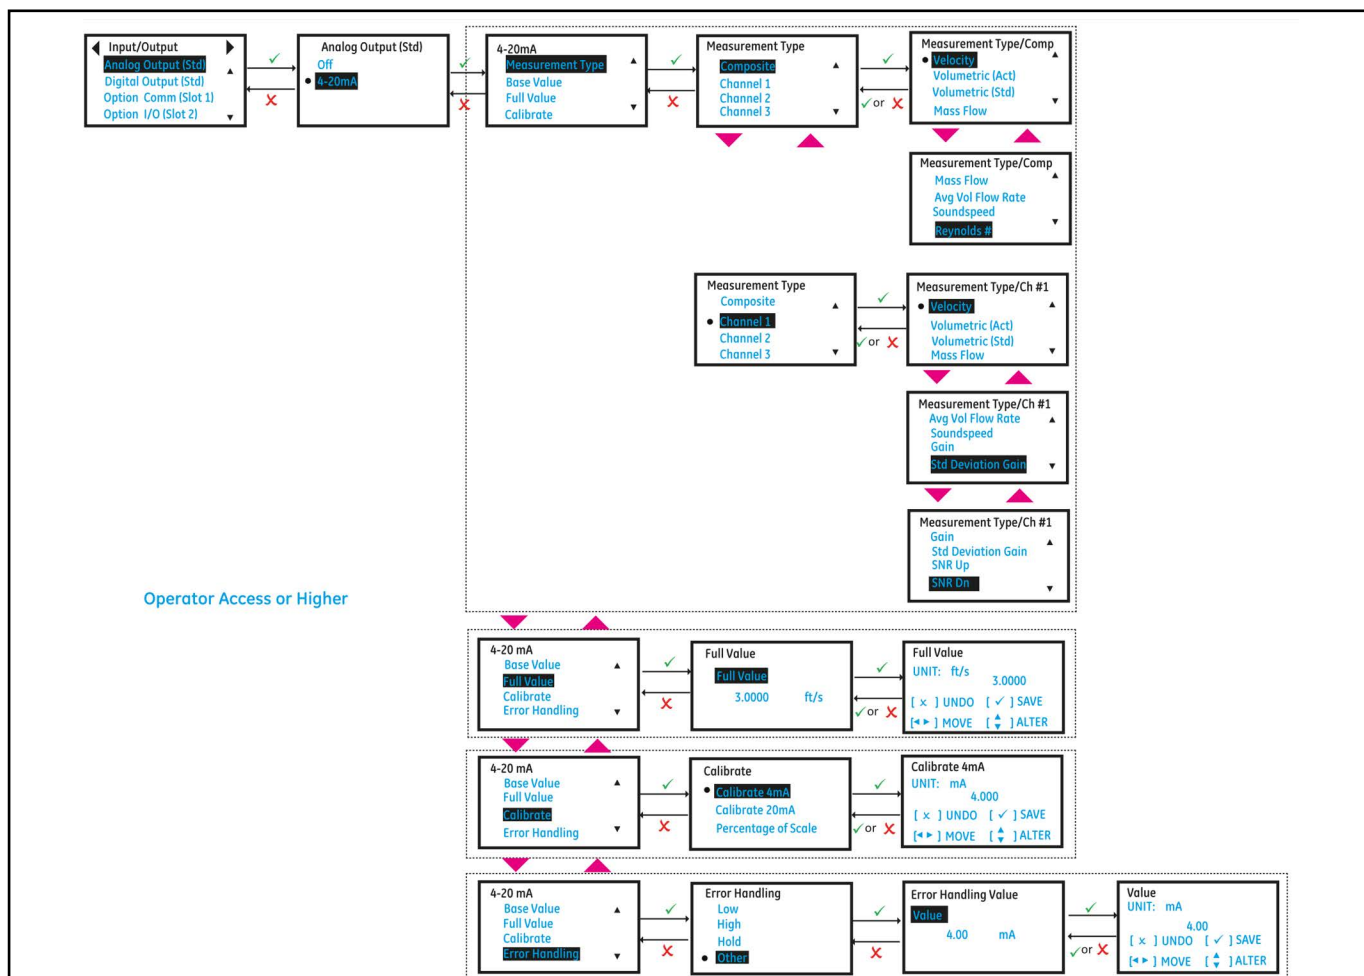
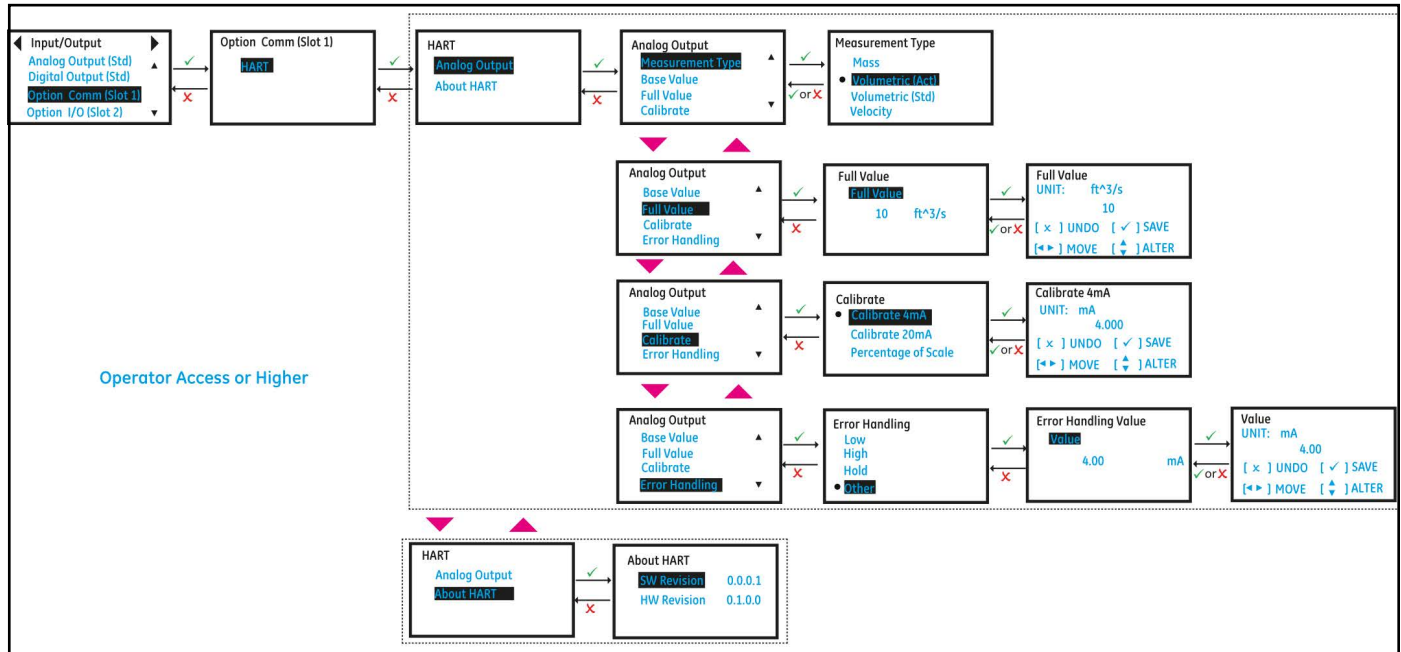

Figure 31: Setting up Analog Output
Figure 35: Option Slot-1 Configured as HART
3. If you are connecting an Analog Output, choose 4-20mA option. The *Figure 31* below, shows the options available.
2. You can set **Analog Output** with HART option. Refer to Figure 35 and Figure 31.